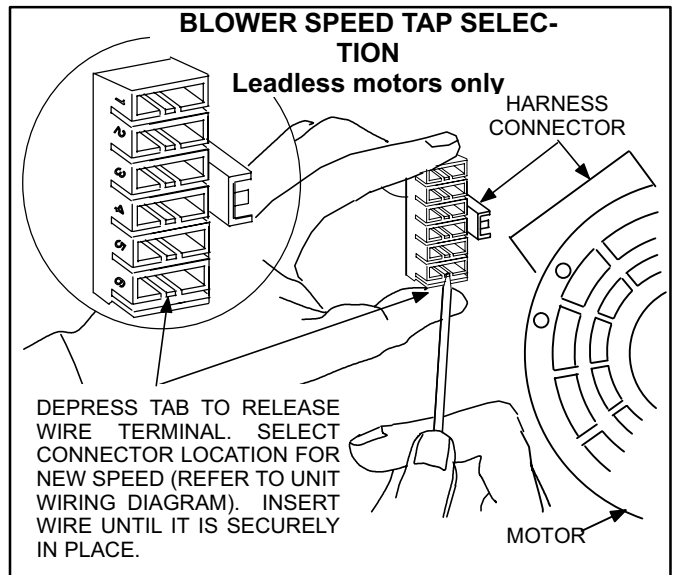

FIGURE 25
- 5 - Depress harness connector tab to release wire terminal. Select connector location for new speed (refer to unit wiring diagram). Insert wire terminal until it is securely in place. See figure 25.